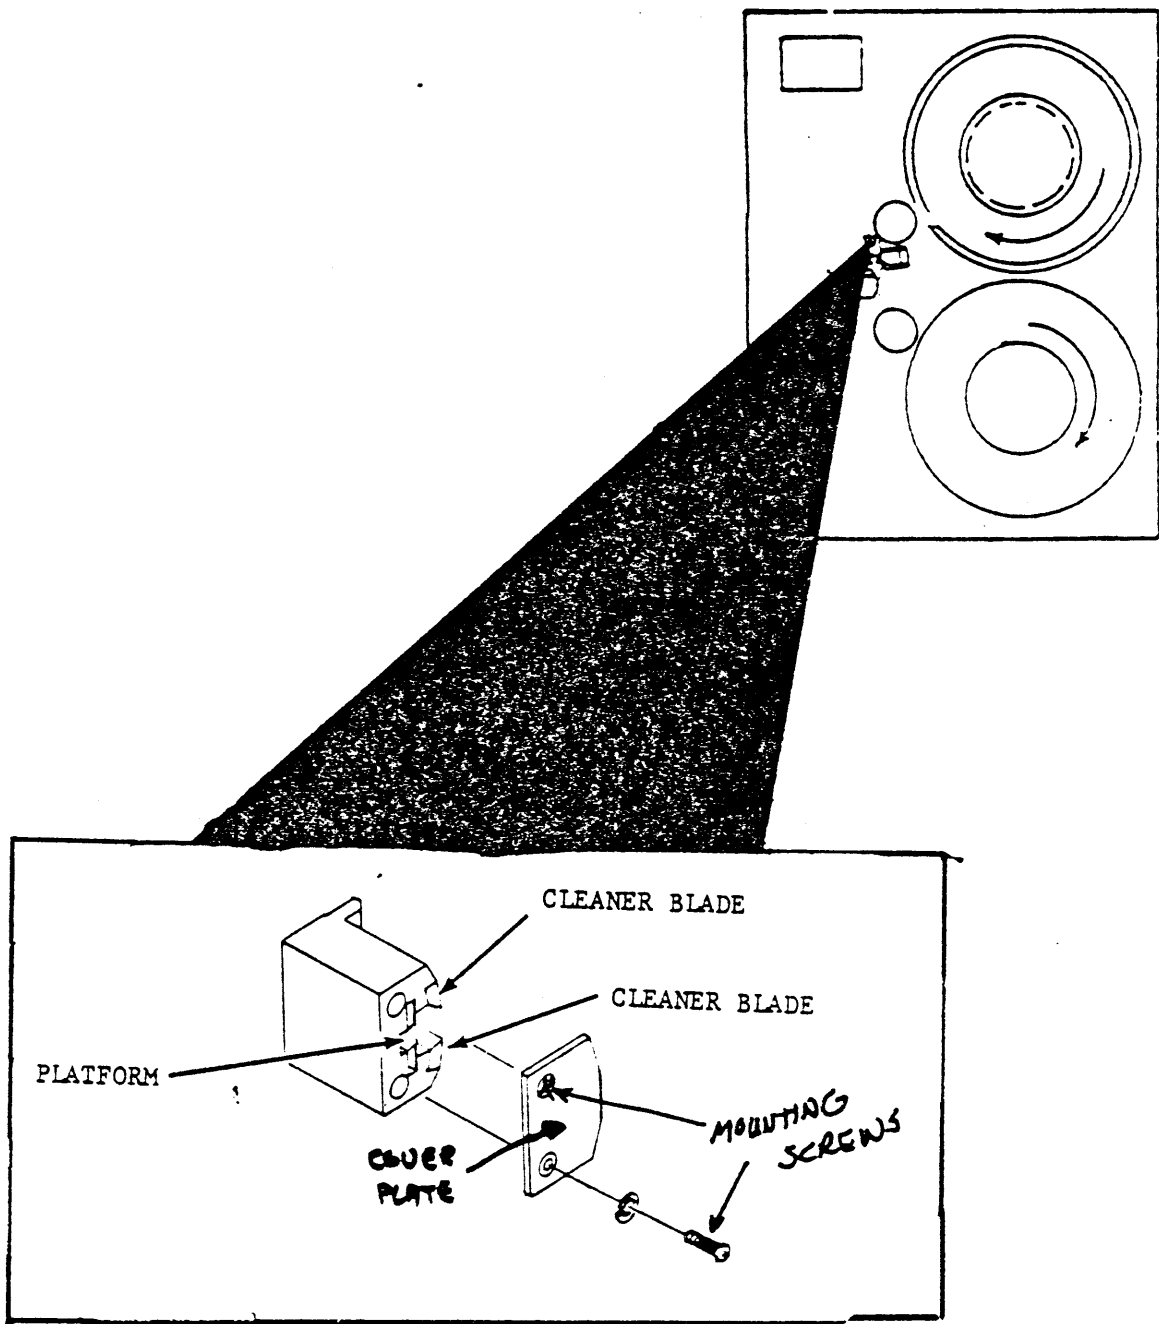

Figure 2 Tape Cleaner
- ___ 1. With the head covers removed, loosen two mounting screws and remove the tape cleaner (Figure 2) from the tape deck.